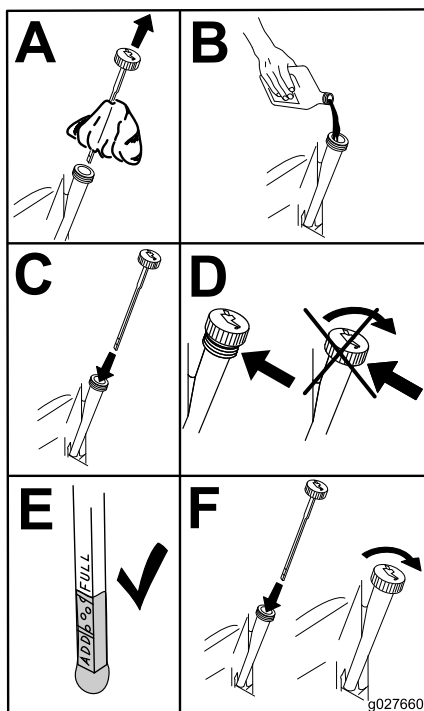

Figure 47
5. Slowly pour approximately 80% of the specified oil into the filler tube and slowly add the additional oil to bring it to the **Full** mark (Figure 47).